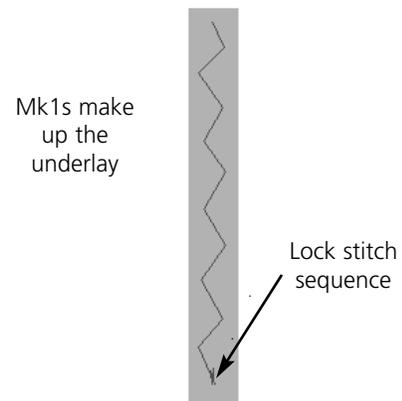

Figure 3-17
1. From the information previously learned, perform a needle up, go to the bottom portion of the letter **I**, and then put the needle back to normal stitch (see Figure 3-17).
3. Next, lay down a running stitch underlay in a slight zig zag pattern up the length of the letter **I** by entering Mk1s before we begin our column stitching (see Figure 3-17).